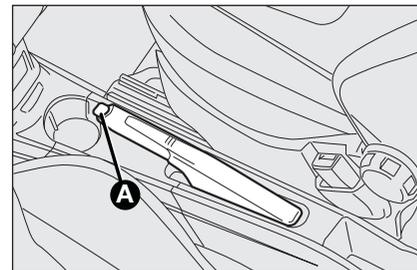

fig. 1
- slightly lift the handbrake and press release button **A** - fig. 1;